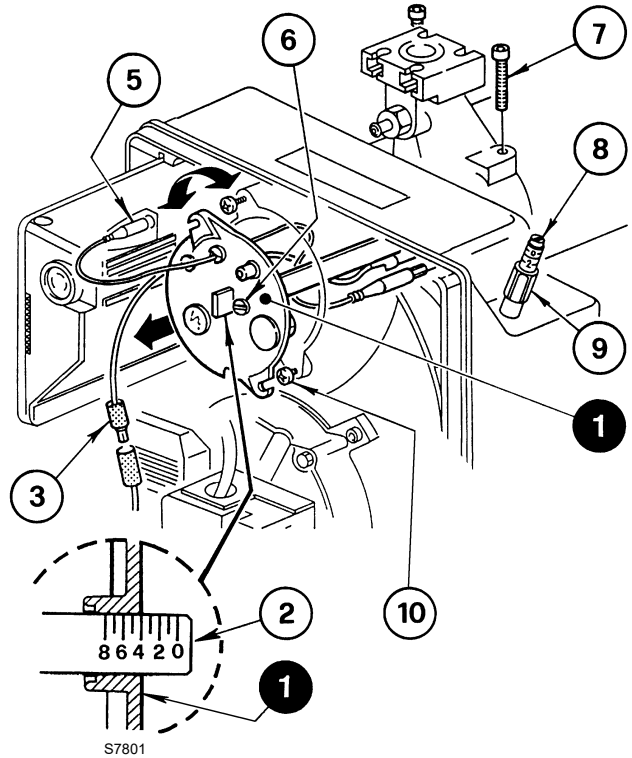

Fig. 11
This is carried out by turning the adjustment screw 6)(Fig. 11) clockwise or anti-clockwise until the notch on the regulating rod 2) lines up with the outside surface of the head assembly 1).
Fig. 11 shows the head regulating rod set on notch 4.
To remove the head assembly (Fig. 11) it is necessary to:
Reassemble with the reverse procedure to that described above, repositioning the head assembly 1)(Fig. 11) as it was originally.
Screw in the screws 7)(Fig. 11) all the way without locking them. Lock them with a tightening torque of 3 - 4 Nm.
Should the pressure test point 11)(Fig. 11) become accidentally loose, we recommend to correctly fasten it checking that hole (F) (Fig. 11) placed on the inner side of the head assembly 1)(Fig. 11) is facing downwards.